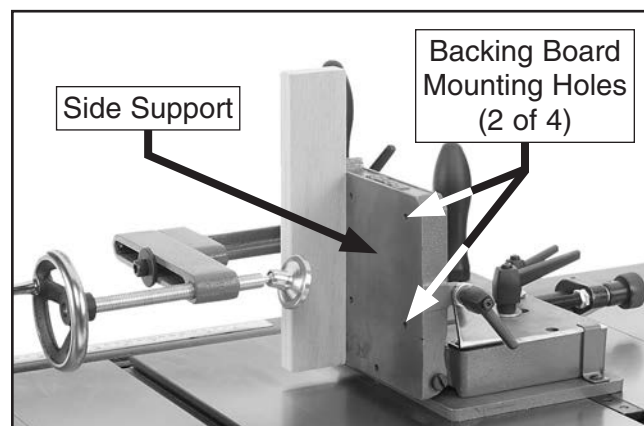

Figure 25. Mounting holes for side support backing board.
5. Cut a backing board approximately 5" wide by 9" tall out of a piece of $\frac{3}{4}$ " plywood, then mount it to jig side support using either wood screws through back of support or recessed cap screws and hex nuts through front of backing board (see **Figures 25–26**).